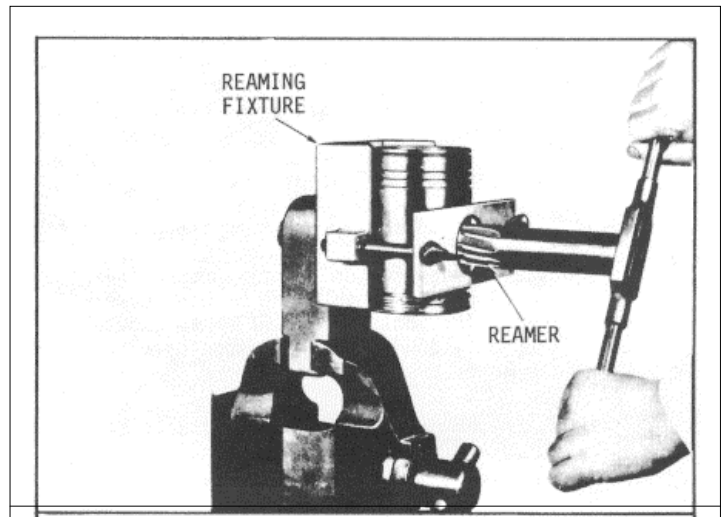

Fig. 8
- (4) Insert the handle J 1513-2 in the bushing installer and drive the bushing in until it bottoms on the spacer.
- (5) Install the second bushing in the same manner.
- (6) The bushings must withstand an end load of 1800 pounds (8.007 kN) without moving after installation.
- (7) Ream the bushings to size using tool set J 3071-01, as follows:
- (a) Clamp the reaming fixture J 5273 in a vise (Fig.8). Then insert the guide bushing J 3071-7 in the fixture and secure it with the set screw.
- (d) Ream the bushings (Fig.8). Turn the reamer in a clockwise direction only, when reaming or withdrawing the reamer. For best results, use only moderate pressure on the reamer.